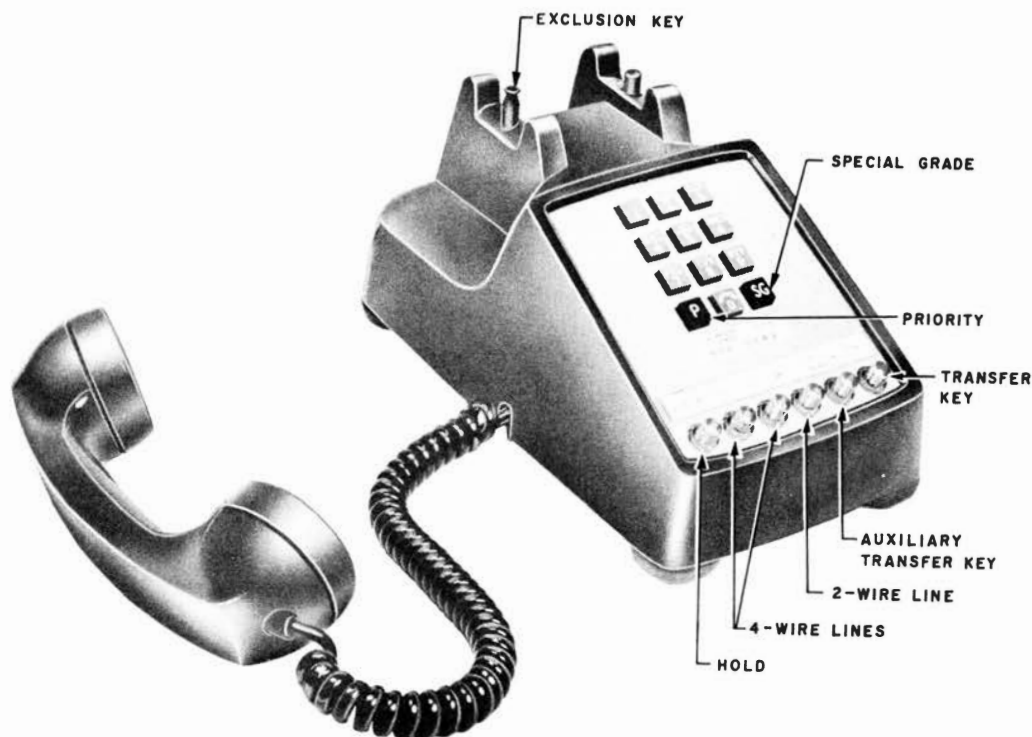

Fig. 1 - 568HT Telephone Set With Typical Arrangement of Pickup and Signaling Keys
3.03 The 568HT telephone set is equipped with a 22A (pushbutton-type) dial. Buttons 1 through 0 are for pulsing central office numbers. Two additional buttons, colored red, are designated P (Priority) and SG (Special Grade). On stations privileged to do so, priority or a special grade facility may be obtained on 4-wire lines by momentarily operating the P and/or SG buttons before the number is dialed. Fig. 1 is a 568HT telephone set with a typical arrangement of pickup and signaling keys.